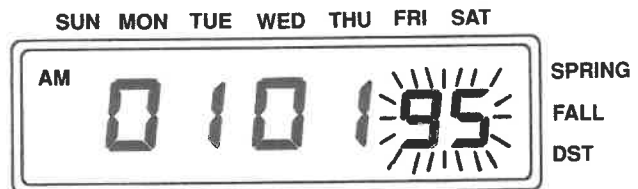

Figure 51
1. Depress [DATE], see Figure 51 for display.